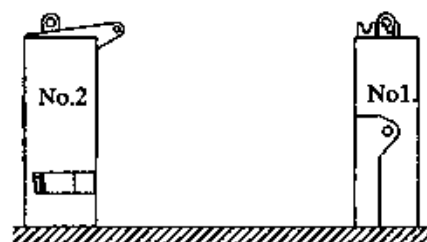

Fig 5-2
- (1) Place the crane on a firm and level ground.
- (2) Place the counterweights (No.1 and No.2) on a firm and level ground as in (Fig.5-2).